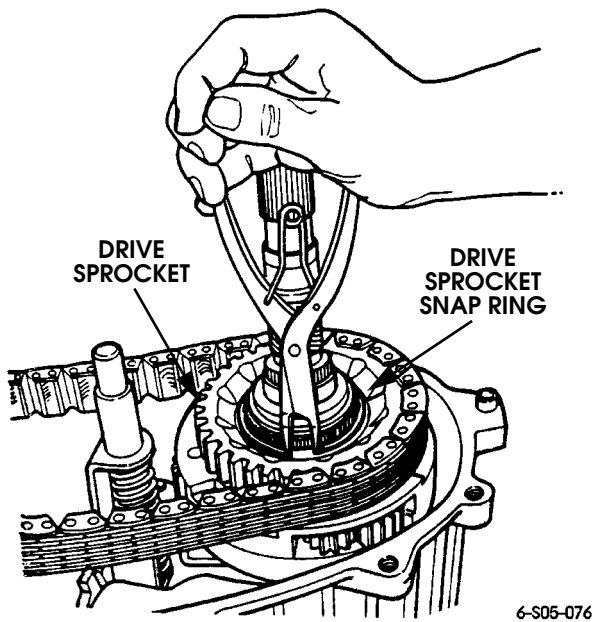

Figure 5-160: Securing Drive Sprocket to Mainshaft
- 27. Secure drive sprocket to mainshaft with new snap ring. Be sure snap ring is fully seated before proceeding (Figure 5-160).